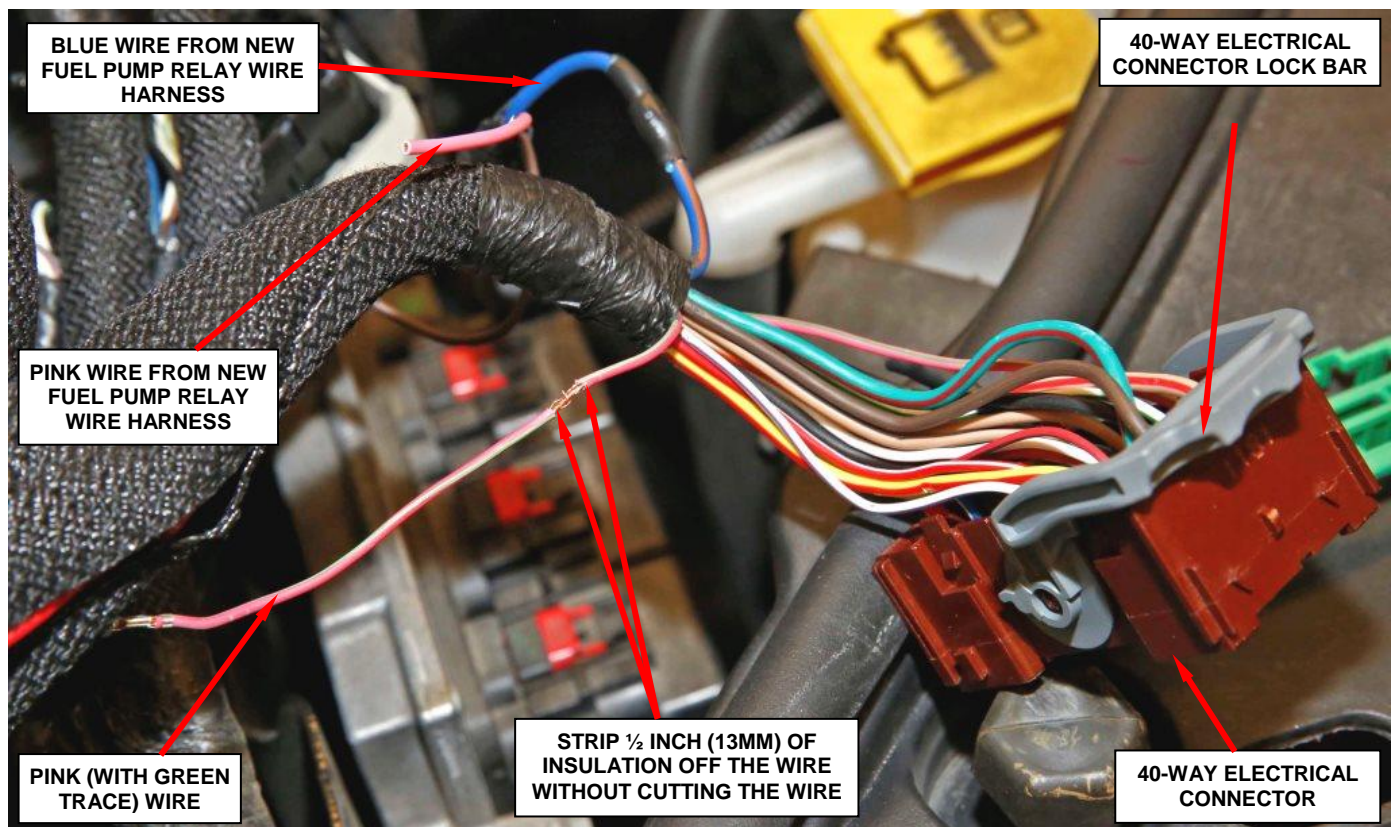

Figure 19 - Remove Insulation without Cutting the Wire
22. Strip approximately ½ inch (13 mm) of insulation off the pink (with green trace) wire without cutting the wire (Figure 19).